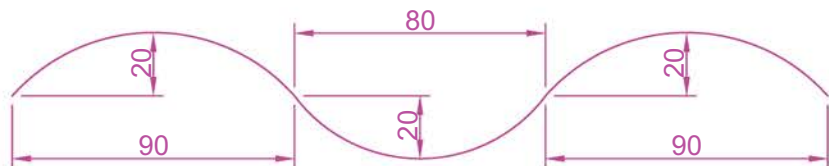

Fig. 11.31 First example – 3D Surface – polyline to be extruded
1. In the **ViewCube/Top** view, on a layer colour **Magenta**, construct the polyline Fig. 11.31.